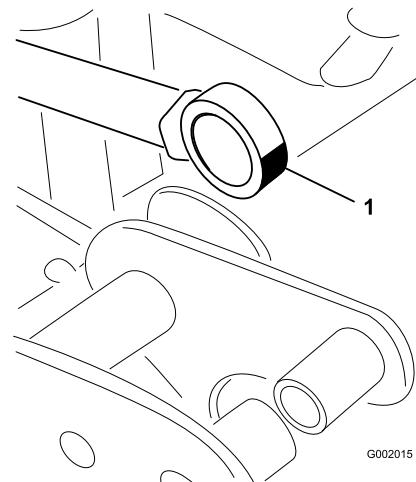

**Figure 106**
7. While supporting the spray section, insert the clevis pin through both boom pivot and actuator rod (Figure 106).